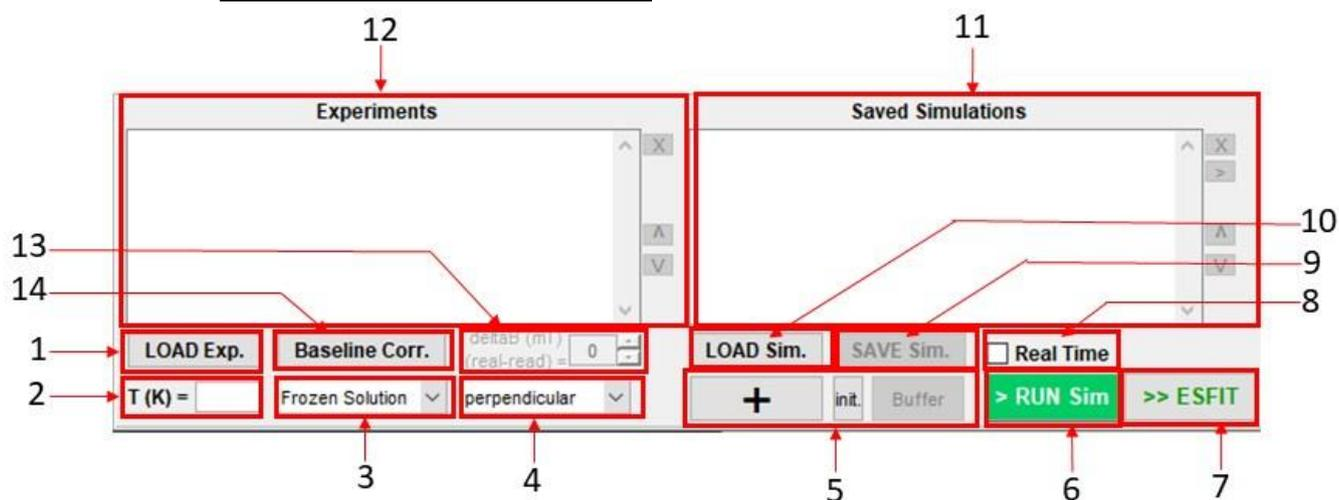

Figure 3: menu and spectra lists sections of the main window
- From the main panel, type the temperature (fig3 n°2. Optional, 100K by default), the simulation mode (fig3 n°3. Frozen solution by default) and the field mode (fig3 n°4. Perpendicular by default),
- Click on « + » button (fig3 n°5) from the main window to create a new component parameters window,
- When the parameters have been set, click on « Run Sim » in the main panel (fig3 n°6) to run the simulation.
By checking « Real time mode » box (fig 3 n°8), the user will be able to conveniently visualize in direct each changing of one parameter.
- The first step is to « Load » one or several experimental spectra (fig3 n°1).
- Temperature (fig3 n°2), the simulation mode (fig3 n°3) and the field mode (fig3 n°4) still have to be set.
To launch the fitting mode, click on the « ESFIT » button of the main panel (Fig3 n°7). The following tab (see fig 7) will open. It is summarized all the parameters from the chosen simulation.
To exit the fitting mode, the user can close the window and click on « Esc. Fit M. » on the main panel (fig3 n°7). If nothing else has been done to keep the fitted parameters in memory, they are going to be lost.
When one experimental spectrum is selected, the user can click on the Baseline tool inside the Tool menu (fig 3 n°14). Thus, the spectrum appears in dotted line and a coordinate cross tool is available.